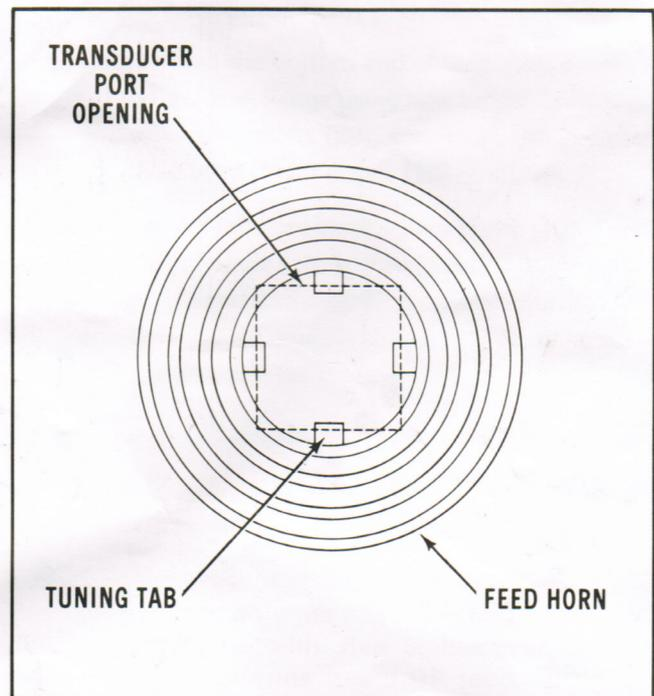

Figure 5. Orientation of Transducer To Feed Horn
### PARTS LIST FOR FIGURES 5, 6, AND 7
### STEP-BY-STEP DP FEED ASSEMBLY INSTRUCTIONS FOR FIGURES 5, 6, AND 7.
1. Install orthomode transducer (13) and cover mounting plate (14) to DP feed (12) using hardware items (20) and (22), eight places. Be sure to orient the transducer to the feed as shown in figure 5.
2. Install two LNCs or LNAs (as applicable) to transducer (13) using hardware items (24), (25), and (26), four places each unit.
3. Attach coaxial cables to each LNC or LNA and secure with cable tie (9) as shown. Make cable loop radius no larger than 5 inches.
4. Route the coaxial cables down along the groove in feed shaft support (6) and secure the cables to the support using three cable ties (9) equally spaced. Allow enough slack in cables at feed end so that they can rotate with the feed.
5. Install feed housing cover (15) on feed housing using hardware item (16), four places.